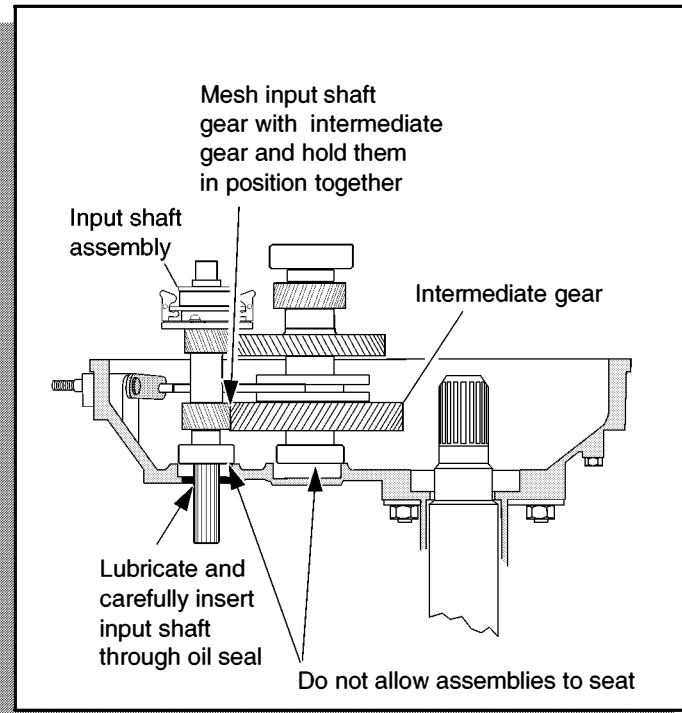

Fig. C-17 Input Shaft Assembly
3. Place the input shaft assembly in the casing (Ref Fig. C-17 on page C-7).